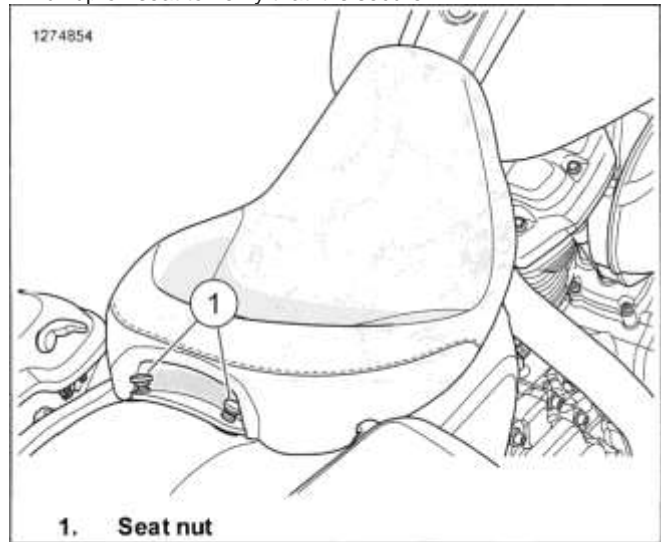

Figure 3-176. Solo Seat
1. See Figure 3-176. Install seat.
- b. Install seat nuts (1).